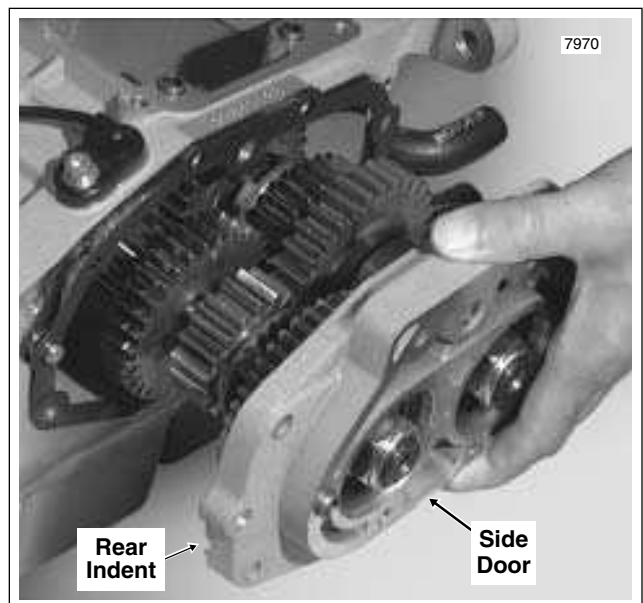

Figure 7-19. Remove Transmission Side Door
9. Remove the six socket head screws (bottom four with flat washers) to free both the side door and transmission exhaust bracket from the transmission case. Pull the side door, mainshaft and countershaft from the transmission case as a single assembly. Remove and discard the door gasket. See **Figure 7-19**.
DO NOT USE A HAMMER TO REMOVE THE SIDE DOOR. If the side door sticks or binds on the locating dowels, gently pry open using the indents at each side of the door. See **Figure 7-19**.
2. Squirt a liberal amount of clean transmission lubricant into the main drive gear to prelube needle bearings. Install the assembled side door in the transmission case. See Figure 7-19.